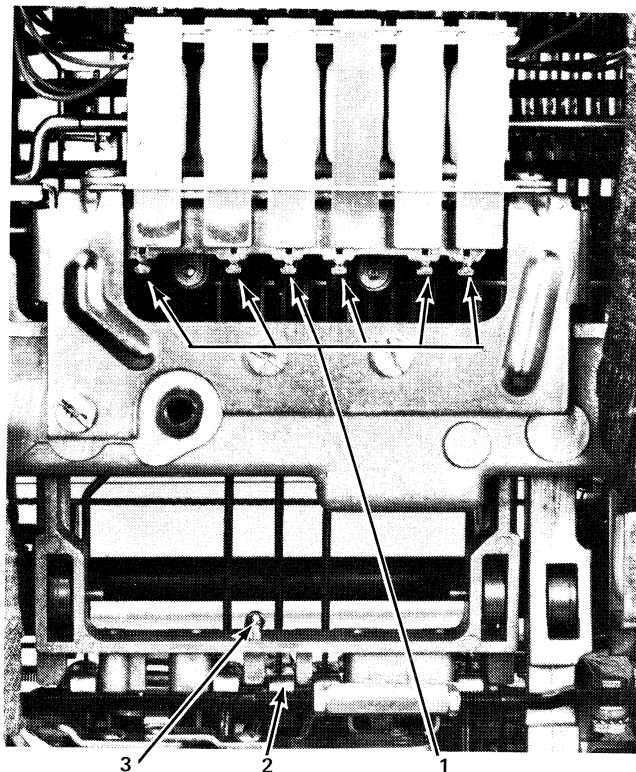

Figure 4-25. Differential Bracket Removal (Bottom of Printer)
4. Disconnect the clevises and remove them from the links (No. 1, Figure 4-25).
5. Remove the rotate arm link (No. 2, Figure 4-25).
6. Remove the positive bail spring (No. 3, Figure 4-25).